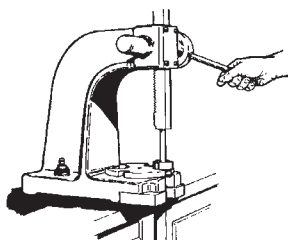

Figure 5-5
6. Using the arbor press, remove the two (2) bearings from the shaft. Refer to Figure 5-5. If the inner race is well supported during this operation, no damage will be done to the bearings.